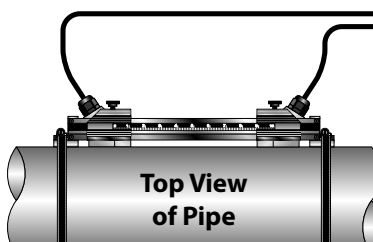

Figure 32: Mounting track installation
4. Place the first transducer in between the mounting rails near the zero point on the scale. Slide the clamp over the transducer. Adjust the clamp and transducer so the notch in the clamp aligns with the zero on the scale. See *Figure 32*.